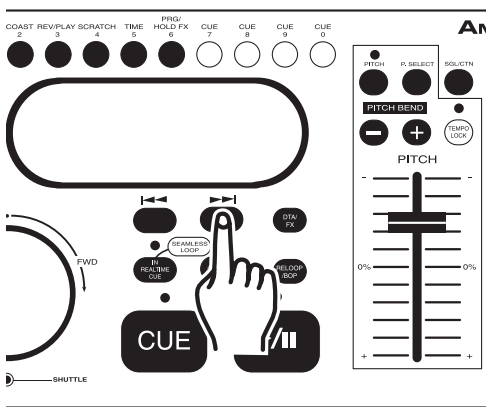

Figure 27
- 7) When you have finished your programming and are ready to begin playback simply press the PLAY/PAUSE BUTTON (29) and your program will begin to play.
- 9) To cancel and clear the program press and hold down the DTA/ FX(22) and PRG/HOLD FX (13) for more than two seconds (see figure 27).